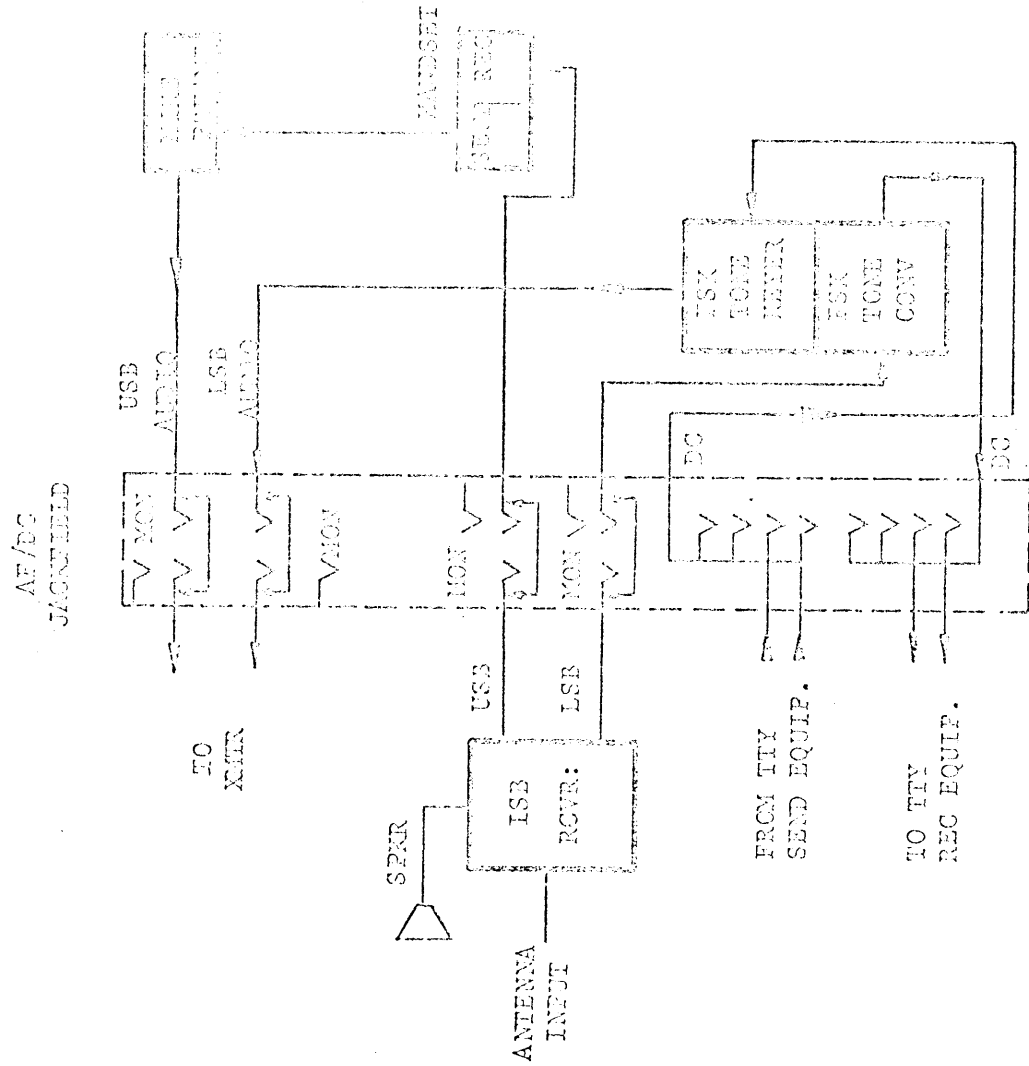

Figure 4-1. Block Diagram, SYM3204 Receiving System
4-2. BLOCK DIAGRAM ANALYSIS (Refer to figure 4-1).
- b. Block Diagram for SYM3204 (figure 4-1).